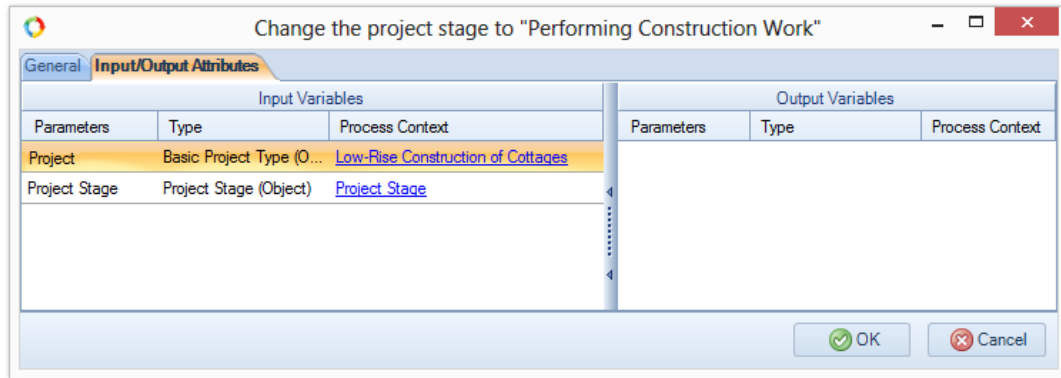

Fig. 65. Change project stage completed settings
**Change project stage** settings window should look like in fig. 65.